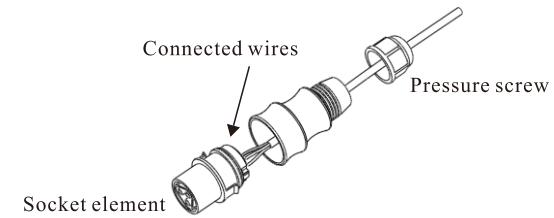

Figure 16
Step3: Confirm all the wires are screwed down(Figure 16).